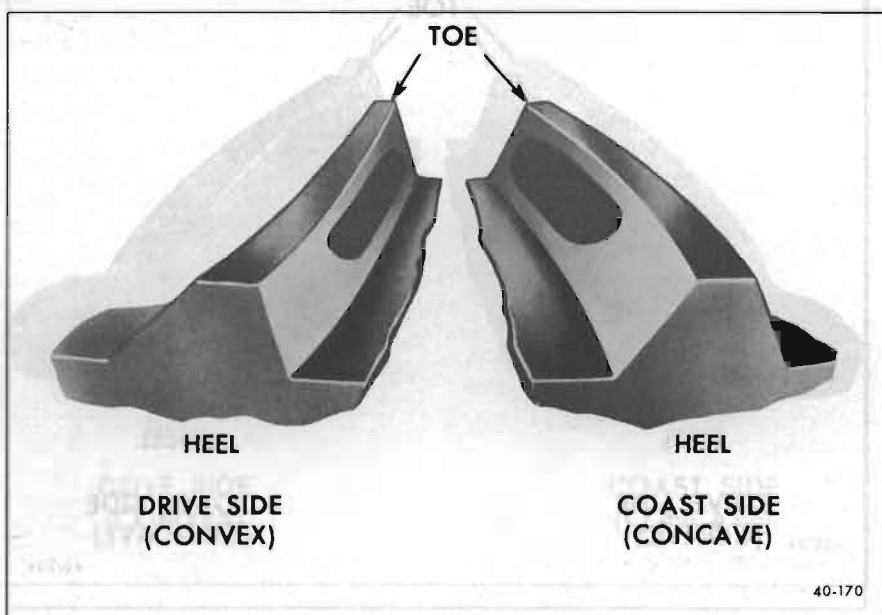

Figure 40-124—Gear Tooth Nomenclature
5. Observe pattern on ring gear teeth and compare with Figures 40-124 and 125.